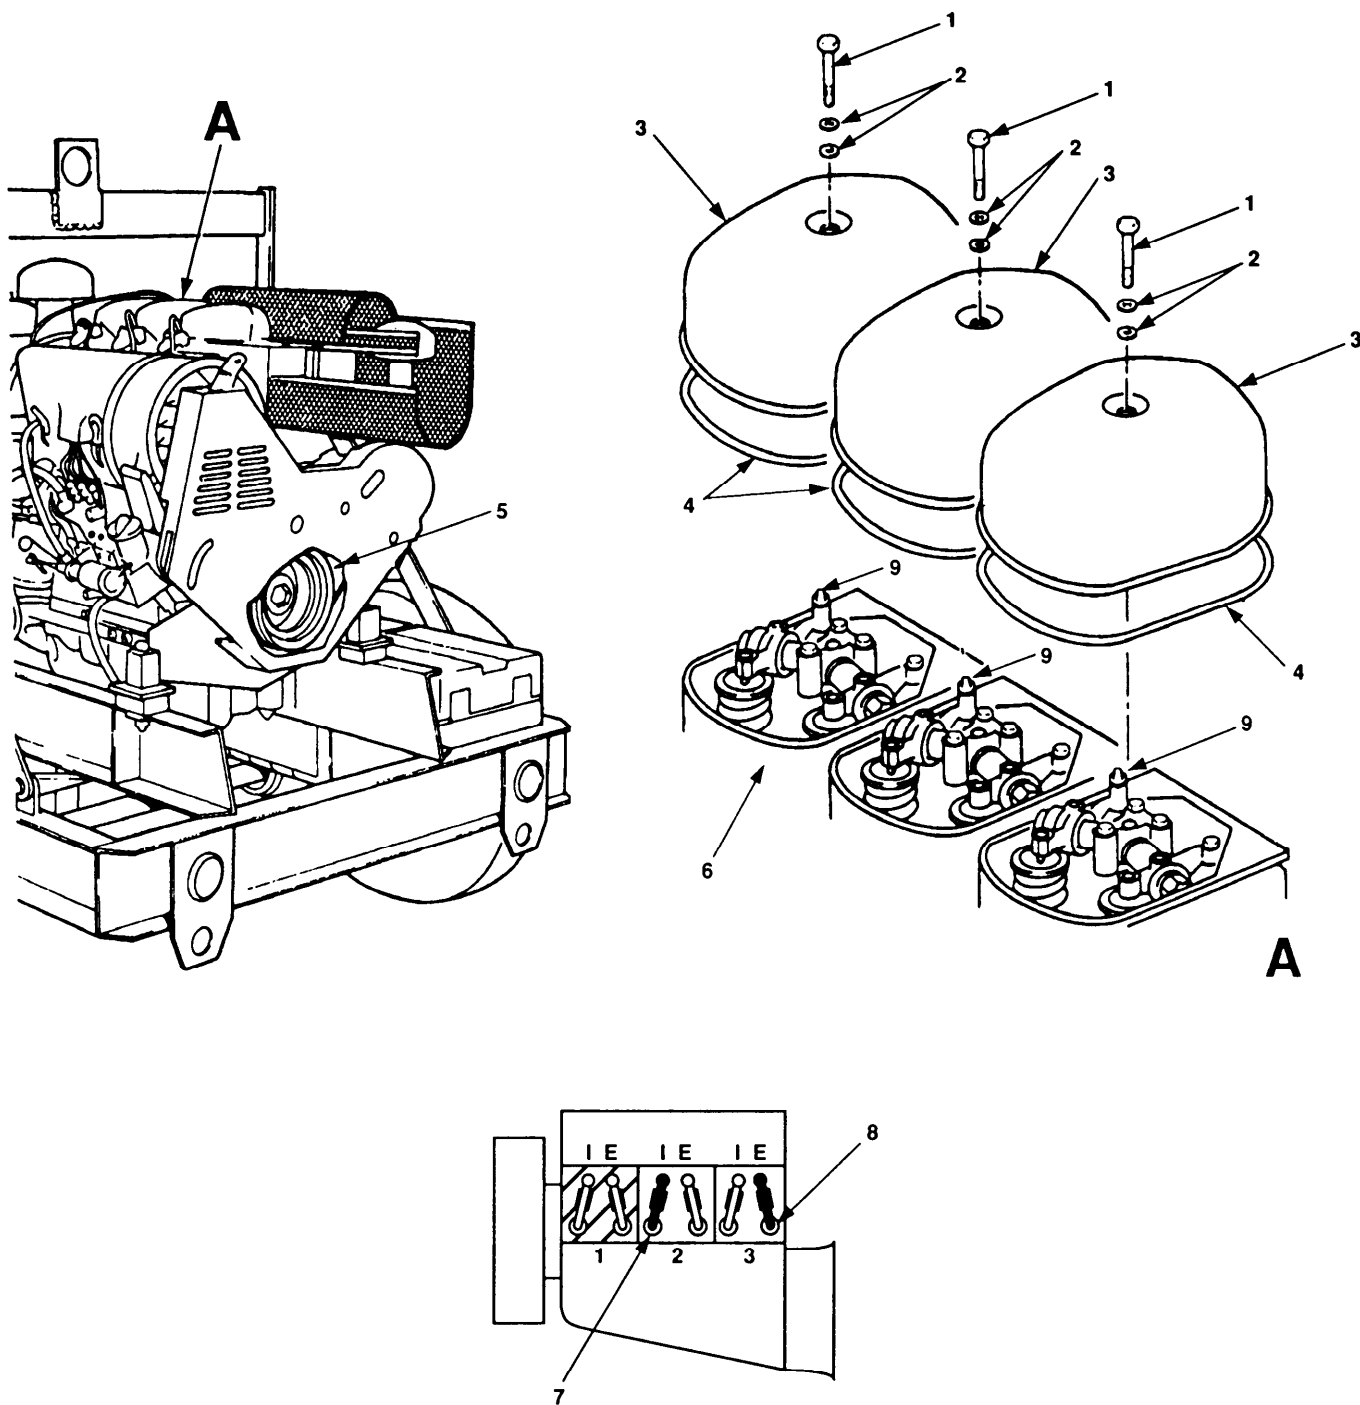

Figure 4-33. Engine Valve Clearance Adjustment.
- a. Remove bolts (figure 4-33, 1), washers (2), covers (3), and gaskets (4).
- b. Turn crankshaft (5) in direction of rotation until valves of number 1 cylinder (6) overlap (pushrods move freely).
- c. Adjust cylinder number 2 intake valve (7) and cylinder number 3 exhaust valve (8) as follows:
- (1) Loosen slotted adjusting screw locknut (9).
- (2) Adjust rocker arm/valve stem clearance to 0.006 in (015mm) by turning slotted adjusting screw.
- (3) While holding slotted adjusting screw, tighten locknut (9).
- (4) Recheck clearance and readjust if necessary.
- f. Apply adhesive sealant to new gaskets (4) and place into position on cover (3).
- g. Install covers (3), washers (2), and bolts (1).